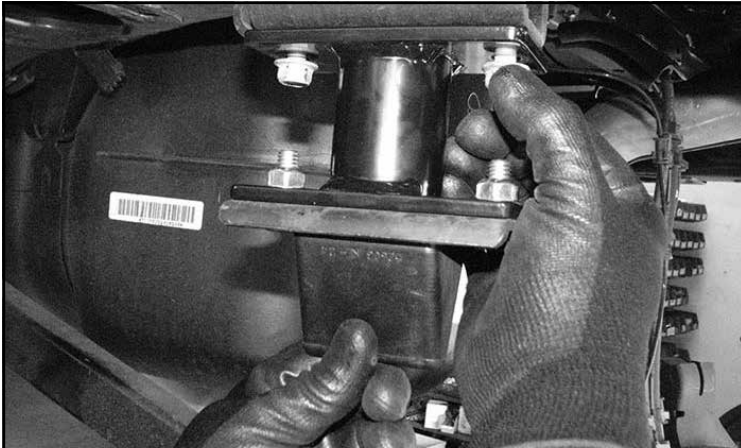

FIGURE 75 - STEP 67
67. Locate the FT44406BK rear bump stop spacer and supplied 7/16"-14x 1-1/4" bolts, nuts, and washers. Install the FT44406BK spacer with the factory bolts that were removed during disassembly. Then, install the factory bump stop onto the spacer bracket with the supplied 7/16" hardware. Torque to 58 ft-lbs. **SEE FIGURE 75**